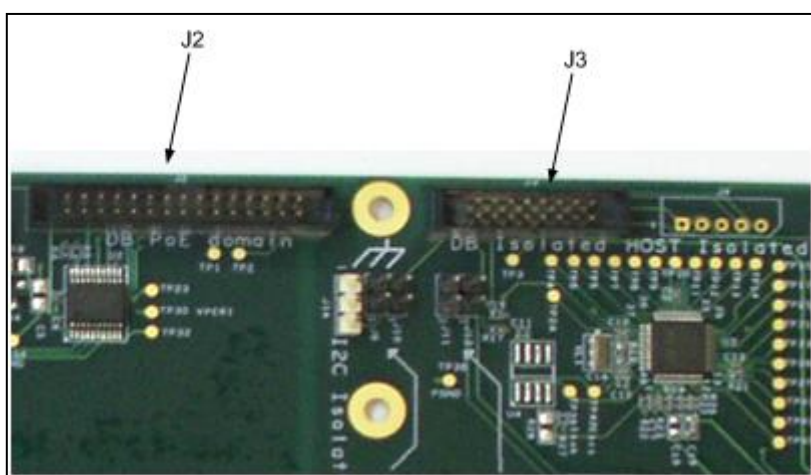

Figure 13: Communication and Indication Connectors
4. Communication and Indication (see Figure 13)